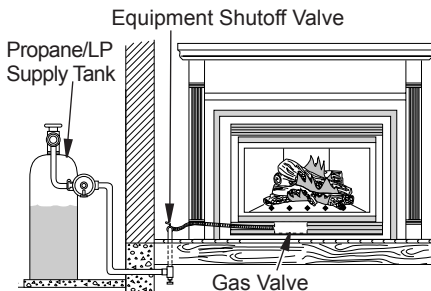
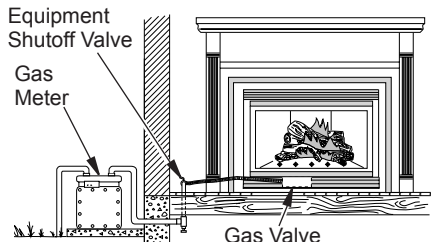

Figure 35 - Checking Gas Joints for Propane/LP Gas Fireplace
Figure 36 - Checking Gas Joints for Natural Gas Fireplace
3. Check all joints from propane/LP supply tank or gas meter to equipment shutoff valve (see Figure 35 or Figure 36). Apply noncorrosive leak detection fluid to all joints. Bubbles forming show a leak. Correct all leaks at once.
4. Check all joints from equipment shutoff valve to gas valve (see Figure 35 or Figure 36, page 23). Apply noncorrosive leak detection fluid to all joints. Bubbles forming show a leak. Correct all leaks at once.